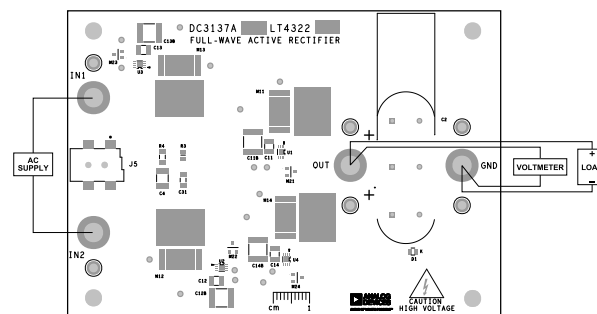

Figure 2. Measurement Equipment Setup
1. Connect an AC power supply between IN1 and IN2, as shown in Figure 2. Make sure that the output voltage of the supply is within the input voltage range of the DC3137A, as shown in Table 1. Verify that shorting resistors R11 to R14 have been removed before exceeding $42V_{AC(RMS)}$. Take care not to exceed 24V or 5A when using the barrel jack. Use the turrets (E1 to E6) and banana jacks (J1 to J4) in all valid current/voltage ranges.
2. Connect a load and voltmeter across OUT and GND, as shown in Figure 2. Turn down the load current to zero. Put the voltmeter in DC volt measurement mode.